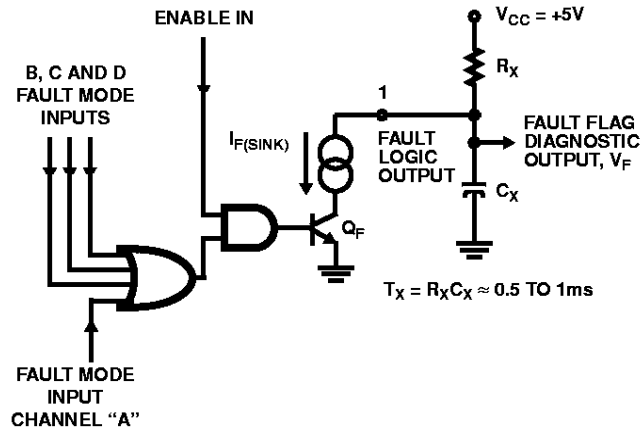

FIGURE 2. EXTERNAL FAULT OUTPUT CIRCUIT AND $I_{F(SINK)}$ AS FAULT SINK PULLDOWN CURRENT, WHICH IS ACTIVATED BY TRANSISTOR, Q_F , WHEN A FAULT EXISTS
- The I_{OL} value of "Output Low Current, $I_{F(SINK)}$ " at the FAULT pin is both the static leakage of the output driver Q_F and the current sink, $I_{F(SINK)}$. The current sink is active only when a fault exists. When no fault exists, the I_{OH} current at the FAULT pin is the maximum leakage current, $I_{F(LK)}$. Refer to Figure 2 for an illustration of the FAULT output and associated external components. Refer to FAULT LOGIC TABLE for Fault Modes.
- The Voltages, V_{HTHD} , V_{LTHD} are the comparator threshold reference values (Min. & Max. Range) sensed as a high and low state transitions for voltage forced at the outputs. V_{HTHD} indicates an open load fault when the output is decreased to less than the threshold. V_{LTHD} indicates a shorted load when the output is increased greater than the threshold. The output voltage is changed until the FAULT pin indicates a Low (Fault). Refer to Figure 2 for test value of external resistor. Refer to I_{OL} and I_{OH} FAULT PARAMETERS Test Limits to determine V_{OL} and V_{OH} at the FAULT pin.
Since a diagnostic flag indicates when an output is shorted, this information can be used as input to a microprocessor or dedicated logic circuit to provide a fast switch-off when a short occurs and, by sequence action, can be used to determine which output is shorted. A fault condition in any output load will cause the FAULT output to switch to a logic "low". Since a fault condition may be detected during switching, use of an appropriate size capacitor to filter the FAULT output is recommended. The recommended FAULT output circuit is shown in Figure 2. This will prevent the FAULT output voltage from reaching a logic level "0" within the maximum switching time.
The FAULT output diagram of Figure 2 shows the circuit component interface for sensing a diagnostic fault condition. As noted, the time constant of $T_X = R_X C_X$ should be greater than the ON-OFF output switching times to avoid false fault readings during switching. For applications requiring fast period repetition rates, the maximum time constant should be significantly less than the period of switching. The shortest practical time constant is preferred to limit the duration of a fault condition.